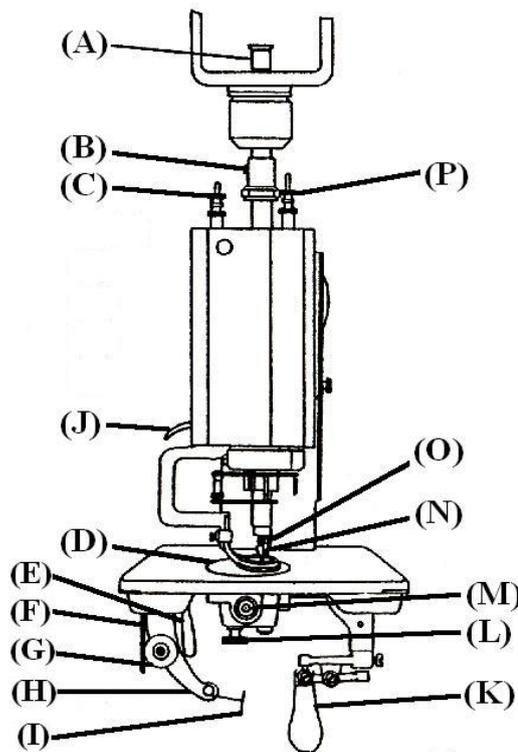
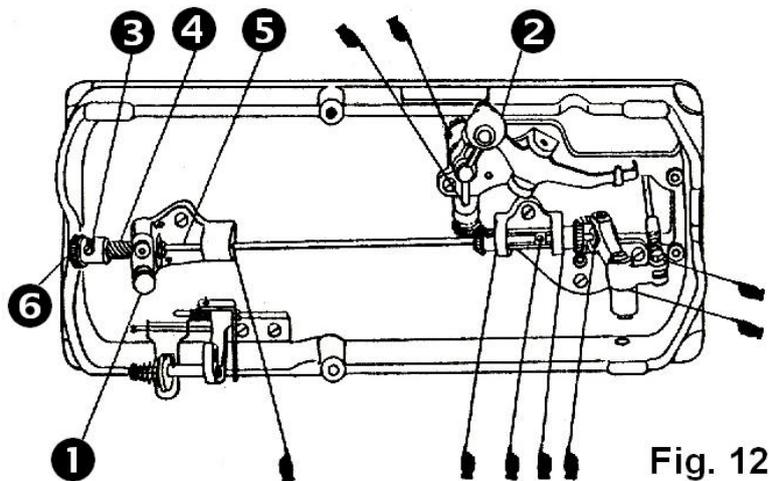

Fig. 4
Fig. 12
6. TO REMOVE, REPLACE AND SET NEEDLE AND NIPPLE (Fig. 4)
10. TO REGULATE THE PRESSURE ON THE PRESSER FOOT (Fig.4)
The pressure on the presser foot is regulated by the thumb screw **©**, Fig.4. To increase the pressure, turn the thumb screw over to the right or downward. To decrease the pressure, turn the thumb screw over to the left or upward.
14. THE LOOPER (Fig. 12)
Allow the stop motion to throw the machine out of action and make sure that it is securely held in its locking position. Raise the needle holder to avoid breaking the point of the needle, remove the needle plate after removing the thumb screw **(1)**, Fig. 12, and observe the notch in the looper which, when in its correct position, should be at the rear slightly to the right of the needle, while the handle **(2)** is toward the front.
15. TO SET THE LOOPER (Fig. 4 & 12)
Turn the machine back on its hinges and turn handle ②, Fig. 12 and screw ⑥, Fig. 4 to the front. Loosen set screw ③, Fig. 12 of the operating worm gear ④. And turn the gear slightly, until the notch in the looper is in its correct position as instructed above. After having set the worm gear flush with the end of the looper shaft ⑤, tighten the set screw ③.
18. RAY STITCH (Fig. 4 & 7)
(1) For loosening thread (Fig. 4)
Loosen the screw **b**, Fig. 4 and lift the needle bar **a** so that the thread
19. PILE OR MOSS STITCH (Fig. 4, 10 & 12)
The raised pile or moss stitch is produced by adjusting the machine so that it will drop the stitches in loose loops on the materials. To accomplish this, turn handle (K), Fig. 4 to the front, loosen the screw (B) and turn the needle bar (A) so that the hook of the needle will point directly to the back of the machine, then tighten the screw (B). Reach under the bed of the machine with the left hand, grasp the knurled end ⑥, Fig. 12 of the operating worm gear ① draw the worm gear to the left and while holding it turn handle ② around to the right directly to the back, then release the knurled end of the gear.